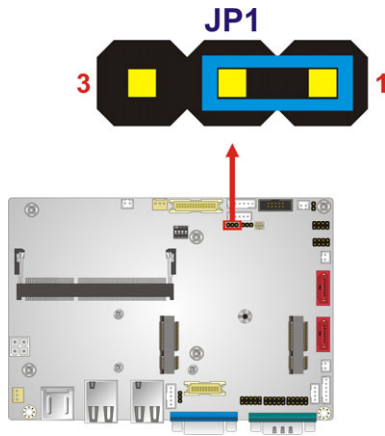

Figure 4-5: LVDS2 Voltage Selection Jumper Location
- Jumper Location:** See Figure 4-5